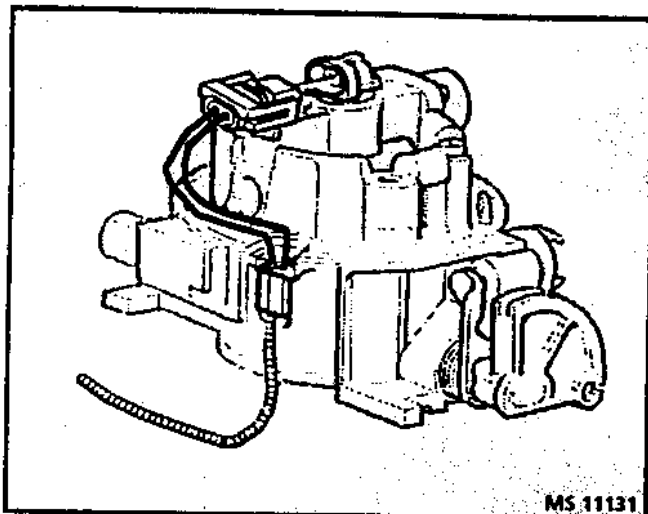

Figure 3.2-9 Throttle Body Injection Injector Electrical Connector
2. Grommet with injector wires from throttle body injection assembly (Figure 3.2-9);